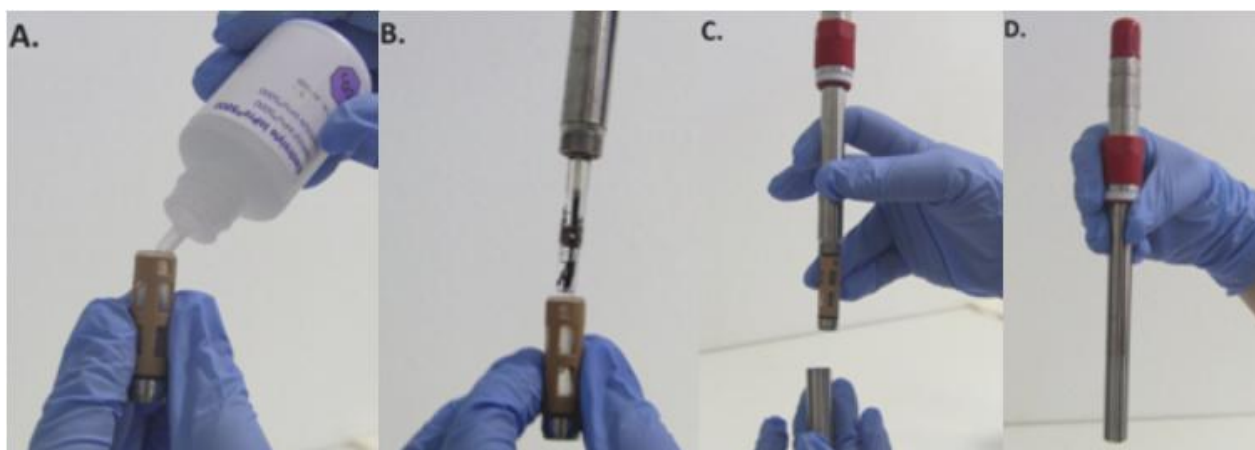

Fig. 25 Assembly of the CO₂ electrode.
- Assemble the electrode according to the manual provided by the electrode manufacturer. Individual steps of the assembly are schematically shown in Fig. 25.